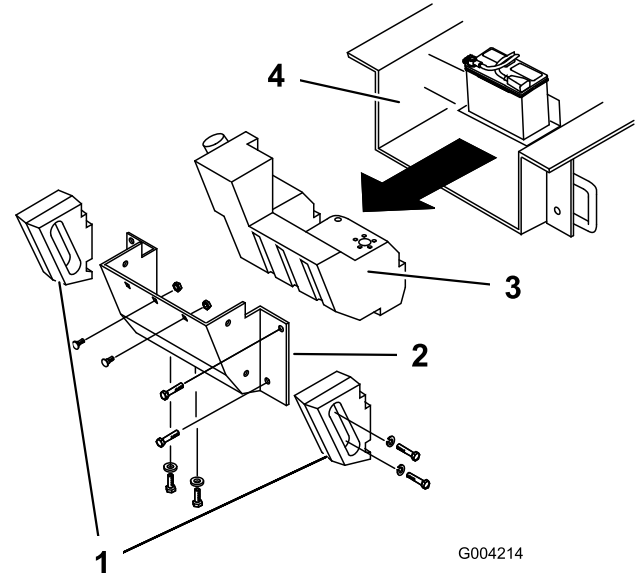

Figure 67
Using a flashlight, open the hood and inspect the area under the engine regularly. When the debris is 2.5 to 5 cm (1 to 2 inches) deep, complete the following procedure (refer to Figure 67 throughout this procedure):
5. Remove the bolts, washers, and lock washers securing the 2 side weights, removing the weights (Figure 67).
8. Remove the 6 nuts and bolts securing the rear panel; remove the panel (Figure 67).
10. Slide the fuel tank to the rear (Figure 67).
17. Slide the fuel tank part way into the chassis (Figure 67).
23. Replace the rear panel and secure it with the 6 bolts and nuts removed previously (Figure 67).
25. Install the side weights with the bolts, washers, and lock washers removed previously (Figure 67).